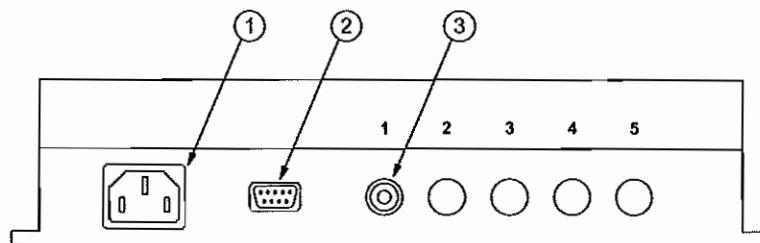

Figure A.14: Connection of the drive control
1. Connect the cable of the telescope drive to the motor connection 3 of the drive control in FIGURE A.14.
2. Plug the hand set cable into the Sub-D jack 2 in FIGURE A.14.